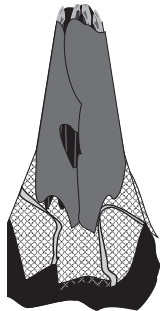

Fig. 1
- Stand the tent upright with the hub assembly at the bottom. (Fig. 1)